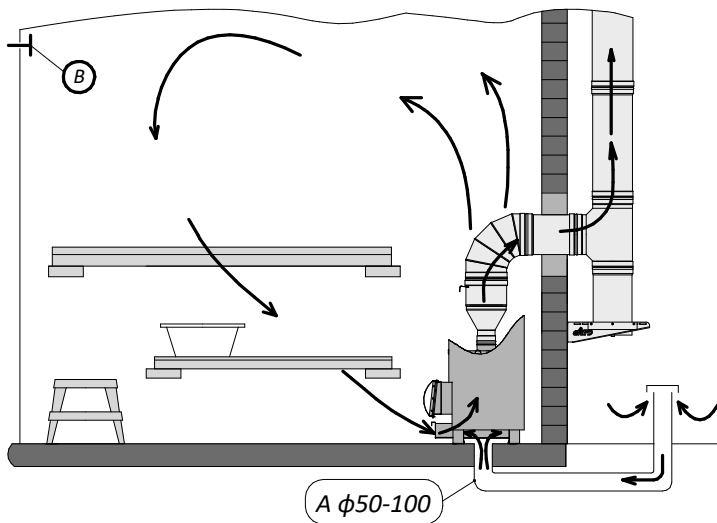

Figure 1.
1) Self-ventilation (Figure 1):